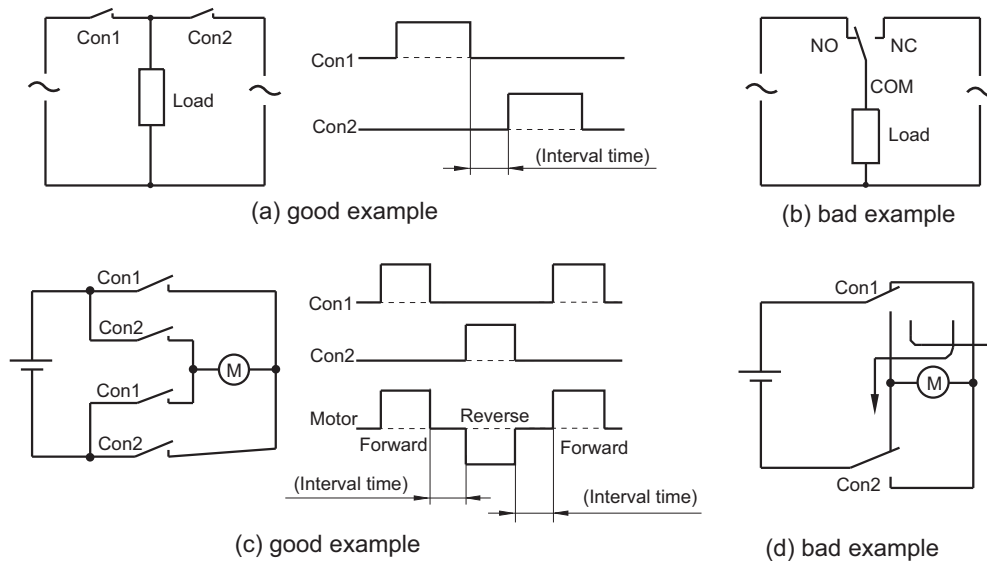

Figure 4
In the electrical circuit, the following points should be considered (seen in the figure 4)
1) Generally the gap between the contacts are small. The reason can probably be that the electrical arc between the contacts results in the short circuit. Please do not adopt the circuit shown in figure 4(b). The circuit shown in figure 4(a) is suggested to use and the certain interval can be set in the operation between Con1 and Con2.
2) Care should be taken that the two pairs of switching contacts are not used to build the forward circuit and the reverse circuit, as shown in figure 4(d). We recommend to use electrical circuit demonstrated in pic 4 (c), but please don't apply over-current on contact to prevent short circuit from happening on NO, NC contacts due to unopened electrical arc which may lead to short circuit on electrical power supply.